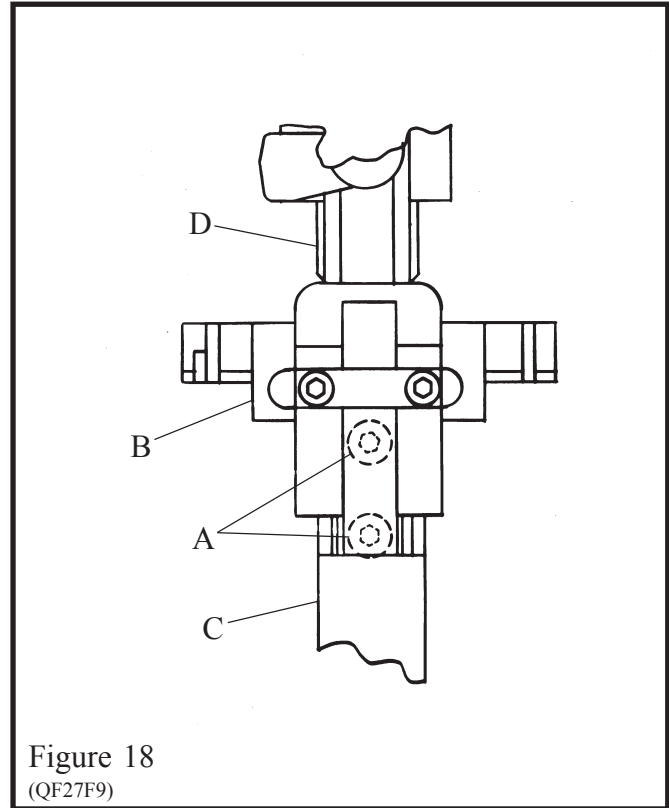

Figure 18
B. Table/Clincher Bracket Adjustment (Figure 18)